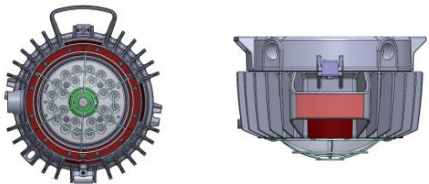

FIGURE 3A - PA3001
- Line up the 3-wire guard mounting loops where the three screw locations are visible on lens bezel as shown in figure 3a or 3b.